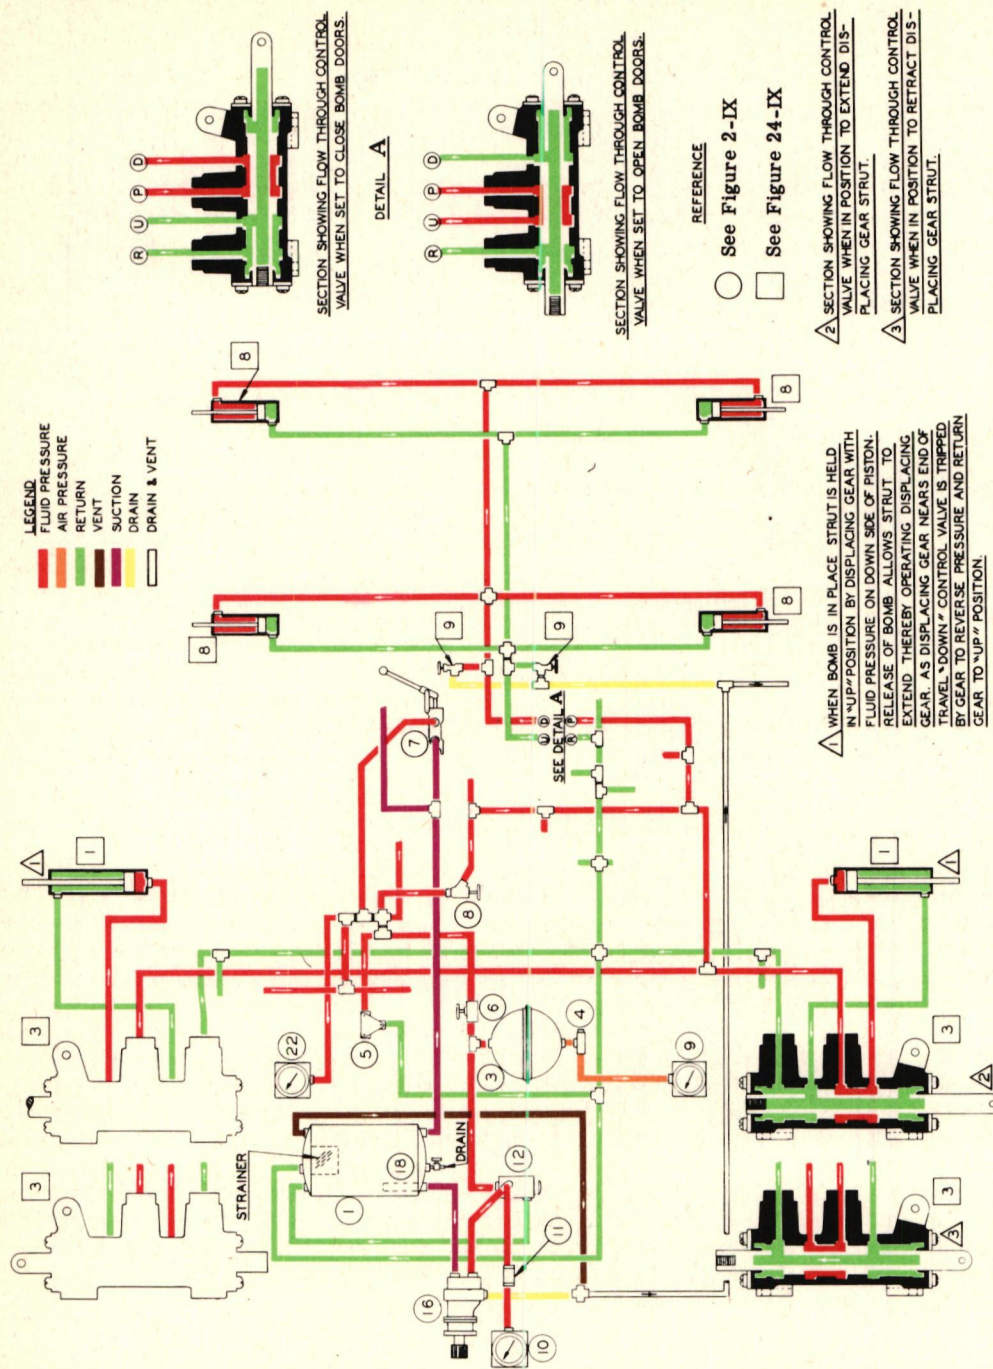

Figure 25-IX - Bomb Doors and Displacing Gear Schematic
a. General.- The bomb bay doors and bomb displacing gear are operated hydraulically. The bomb door system opens and closes the bomb bay doors as required for release of bombs carried internally. The bomb displacing gear system swings released bombs clear of the airplane, and the gear then automatically retracts. The two systems are not connected together in any way but are closely related in function. The systems are shown in perspective on fig. 24-IX and in schematic form on fig. 25-IX.
(1) Description.- The bomb bay door hydraulic system consists essentially of a control valve, two emergency dump valves, four strut assemblies, and the necessary lines and fittings. The control valve is located on the underside of the cockpit floor, its handle projecting through a slot in the floor at the left of the pilot's seat. A hydraulic strut is attached to the fuselage structure in the bomb bay near the fore and aft ends of each bomb bay door and the strut pistons are attached to fittings on the doors themselves.
(2) Normal Operation.- The mechanical features of the bomb bay doors are discussed in section II. Only the hydraulic action and the directly related mechanical action will be discussed here.
Refer to fig. 25-IX. When the bomb door control lever is placed in the "CLOSED" (aft) position, the control valve plunger is placed in the full aft position, as shown in the upper portion of detail "A." With the plunger in this position, fluid under pressure from the main hydraulic system is directed through the lines to the bottom ports of the four actuating struts, retracting the pistons and closing the bomb bay doors.
(3) Emergency Operation.- For emergency operation, when hydraulic pressure cannot be obtained, the bomb bay doors may be opened by opening the two dump valves (item 9, fig. 25-IX) which are located at the left of the pilot's seat. This will allow the struts to drain, permitting the pistons to move freely, and the bomb bay doors will be opened by a shock cord arrangement which is always under tension. The dump valves should be closed immediately after the doors open to prevent excessive loss of hydraulic fluid, which will drain outside the airplane as long as the valves are open. The position of the bomb door control lever and valve will have no effect upon the emergency opening of the bomb bay doors in this manner unless there is
After all operations relating to the bomb loading are completed, the displacing gear control valve levers are each placed in the inboard position, and the main shut-off valve (item 8, fig. 1-IX) then opened. The plunger of each control valve is now in the extended position as shown connected into the system on fig. 25-IX. With the plungers in this position, pressure from the hydraulic system is applied through the top ports of the actuating struts. The displacing gear, however, is prevented from extending by the bombs themselves until they are released. When the bombs are released, the actuating struts force the displacing gear immediately to the fully extended position to swing the bombs clear of the airplane.
However, as the displacing gear attains the fully extended position, it trips the dead-center bell crank of each valve control mechanism to place the valve plungers in the retracted position as shown on note 3 of fig. 25-IX. With the plungers in this position, fluid under pressure from the main hydraulic system is directed through lines to the bottom ports of the actuating struts to retract the strut pistons and the attached displacing gear. As the arms of the gear attain their fully retracted position, they engage the spring-loaded "UP" latches and are locked in the retracted position until released manually by moving the latch levers inboard.